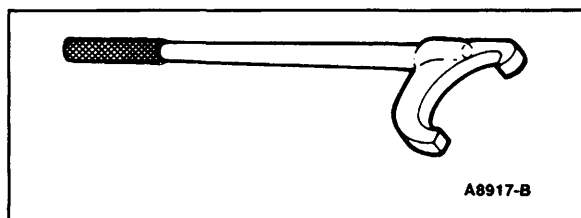

Figure 5 T83T-9000-C Injection Pump
3. Install rotating Tool T83T-9000-C (Fig. 5) on front of pump and rotate injection pump to align timing mark on injection pump mounting flange with timing mark on pump mounting adapter, to within ± 0.030 inch.